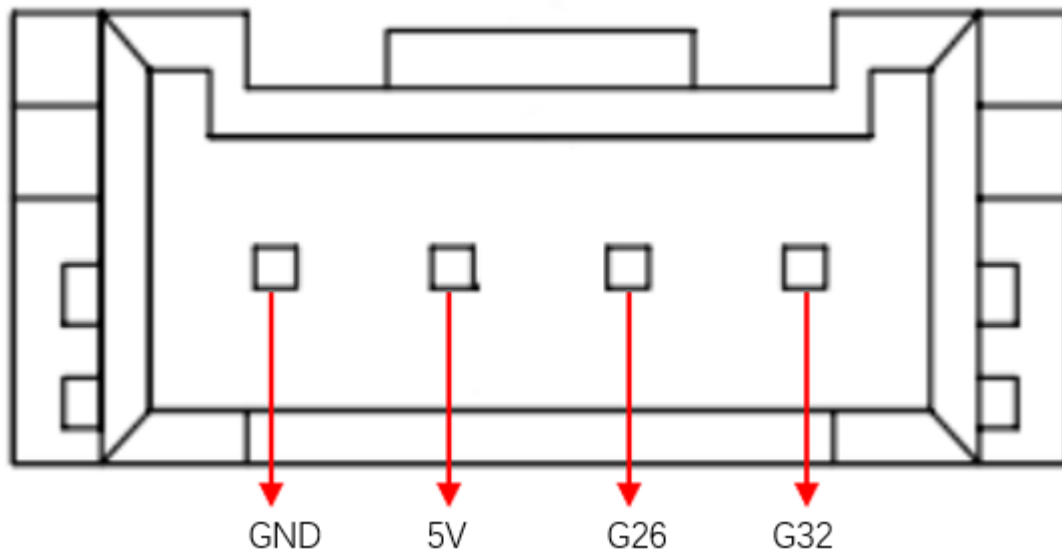

Figure 2-2 Grove port 4
C. Grove interface 4: Figure 2-2 shows the definition of Grove interface 4